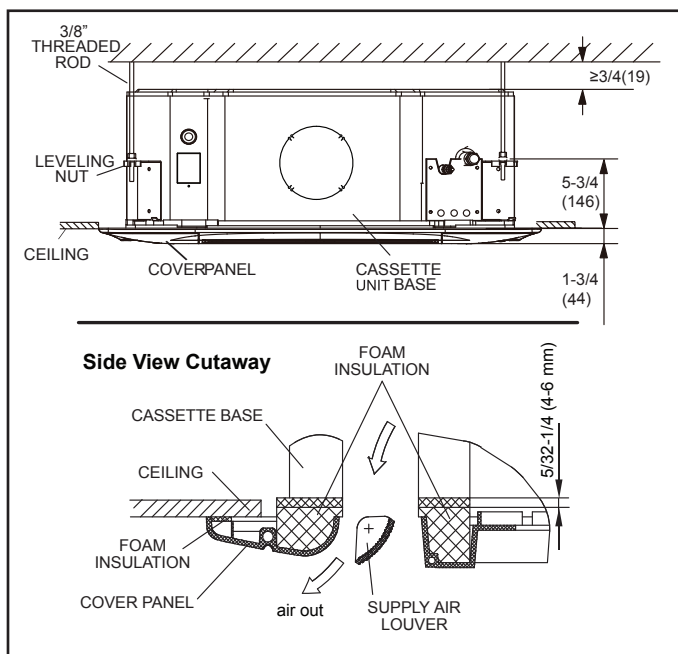

**Figure 22. Install Cover Panel**
5. Locate the cover panel hangers on the two corners with the louver swing motors. Place these two hangers on the corresponding hooks on the corners of the cassette base. See detail A in Figure 22. Then, place the other hangers from the other two corners over their corresponding hooks on the cassette base as shown in detail B in Figure 22.
8. Tighten the provided screws in the bracket in the cover panel immediately below each panel hanger. See detail C in Figure 22. Adjust the cover panel by turning slightly clockwise, if necessary, to make sure that the panel is properly aligned with the cassette base.